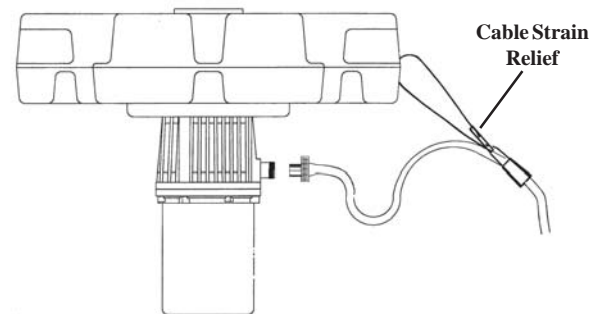

Figure 3
C. Install the cable strain relief device. Pass the wire hoop from the strain relief through one of the holes in the float or around the float bracket. Reattach wire hoop to strain relief -- see Figure 3.
D. Attach your aerator power cable to one of the holes in the float after the strain relief with the ty-raps provided. In corrosive, brackish, and salt water applications use two ty-raps to attach your power cable to the float--see Figure 3.